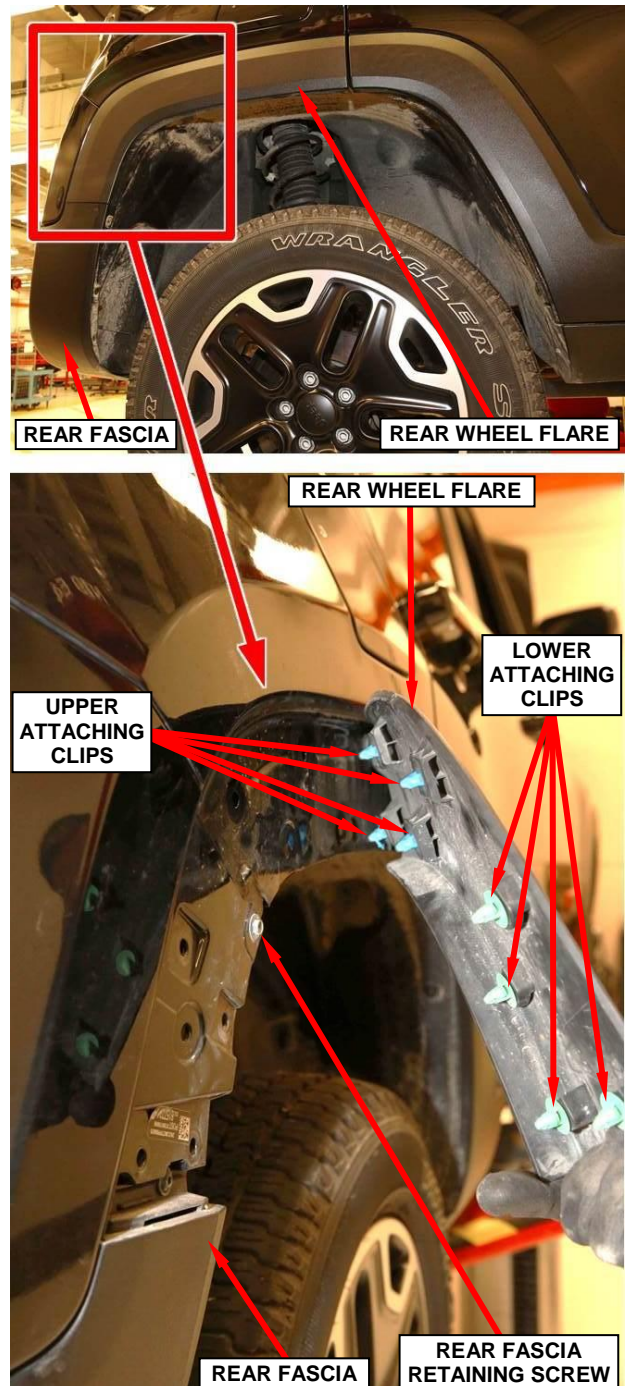

Figure 7 – Rear Wheel Flare
9. Perform the following steps to gain access to the rear fascia retaining screw hidden behind the rear wheel flare on the left and right sides of the vehicle (Figure 7):
10. Remove the rear fascia screw located behind the rear wheel flare on the left and right sides of the vehicle (Figure 7).
21. Install the screws located behind the rear wheel flare on the left and right sides of the vehicle. Tighten the screws securely (Figure 7).
22. Secure the rear wheel flares on the left and right sides of the vehicle by tapping on the wheel flare by hand to engage the attaching clips (Figure 7).